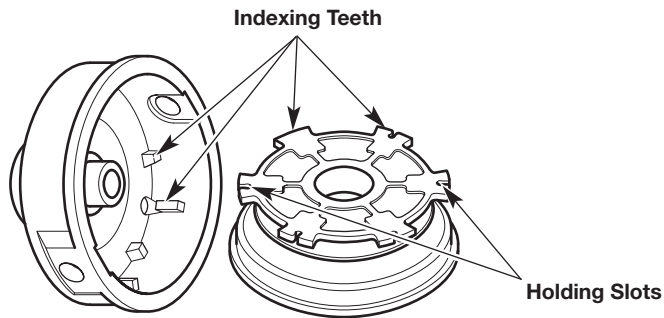

Fig. 18
7. Check the indexing teeth and holding slots for wear (Fig. 18). If necessary, remove burrs or replace the inner reel and outer spool.